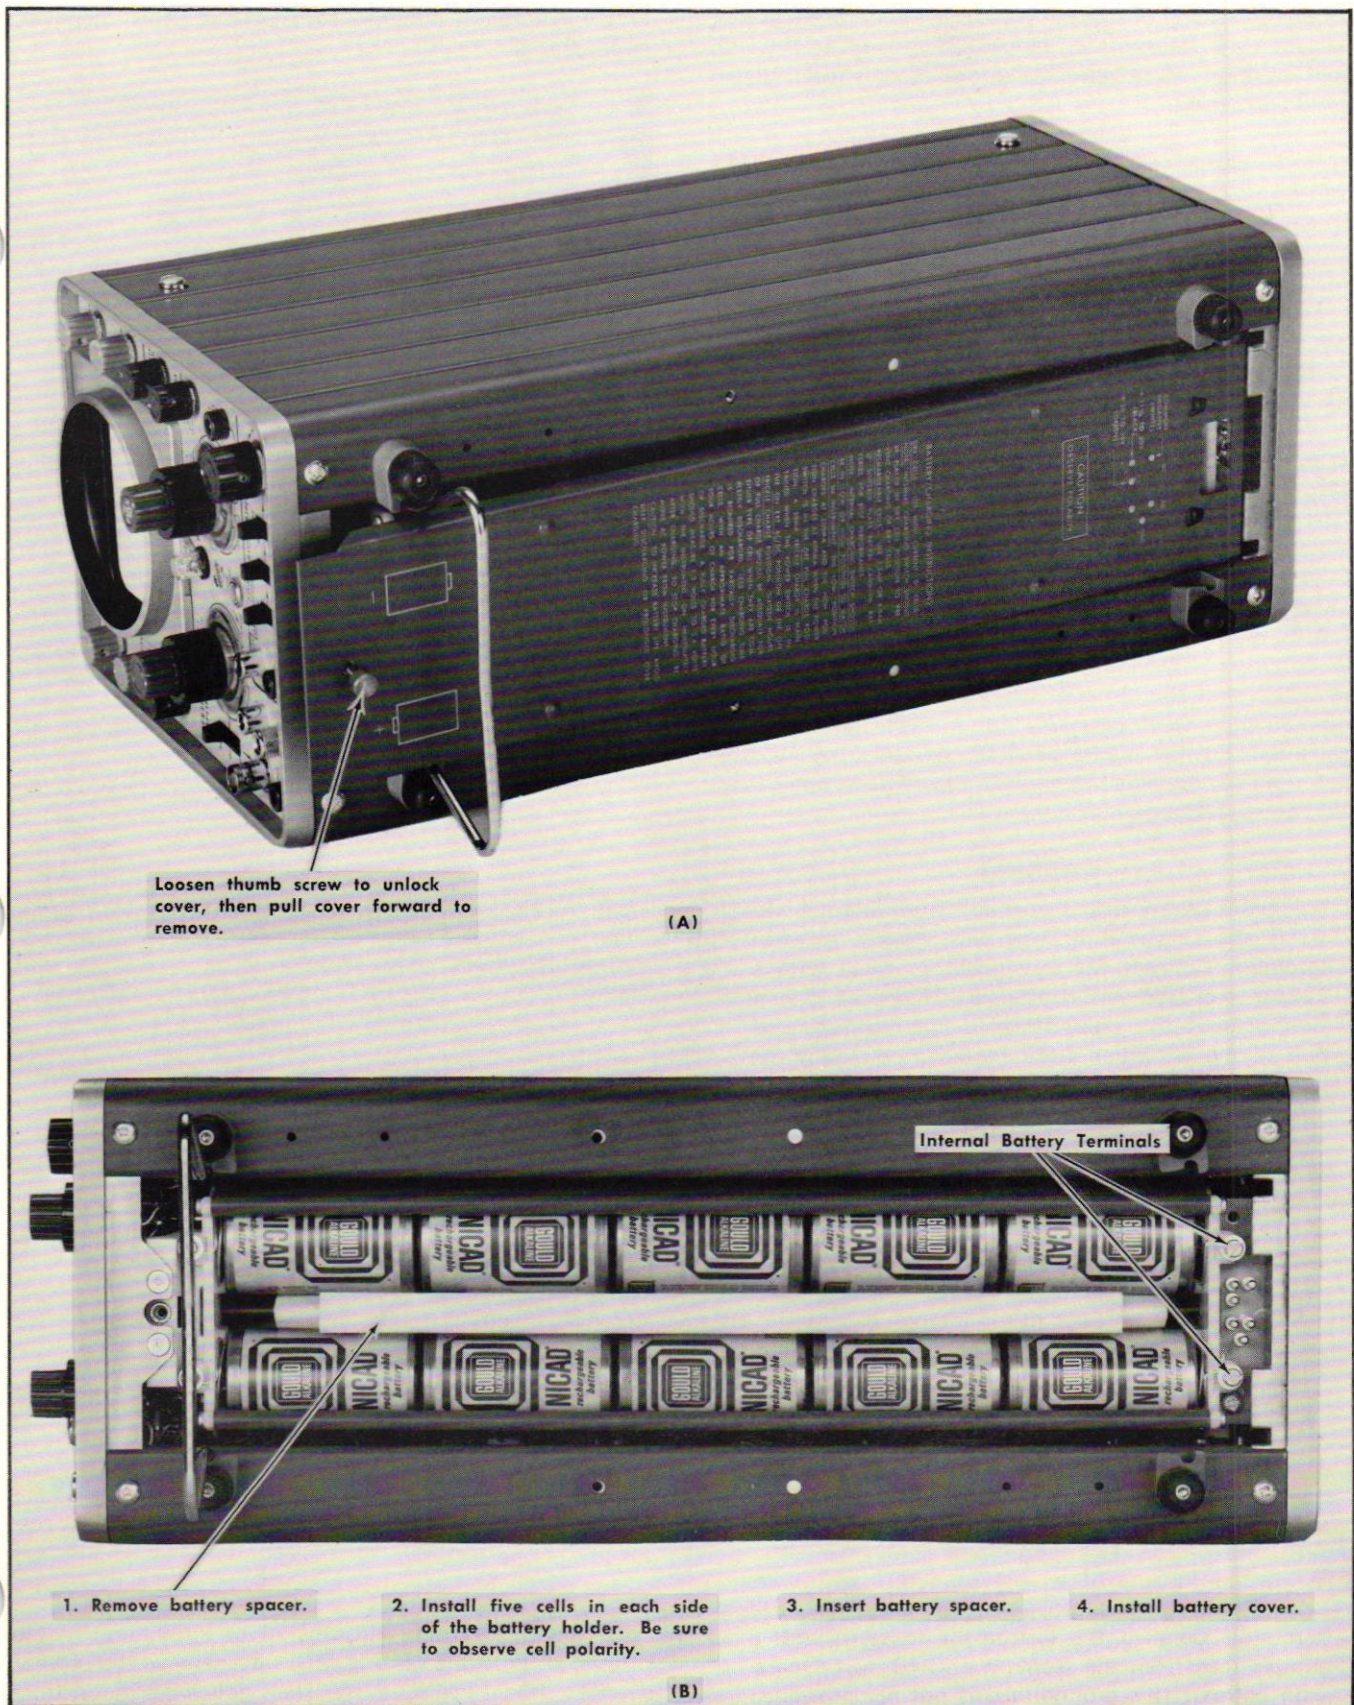

Fig. 2-3. (A) Removing the battery cover from the instrument, (B) installing the batteries.
**Battery Installation and Operation.** Installation of the batteries is illustrated in Fig. 2-3. First remove the battery cover as shown in Fig. 2-3A. Then, following the instructions given in Fig. 2-3B, install the battery cells. Be sure to observe the battery polarity as printed inside the battery